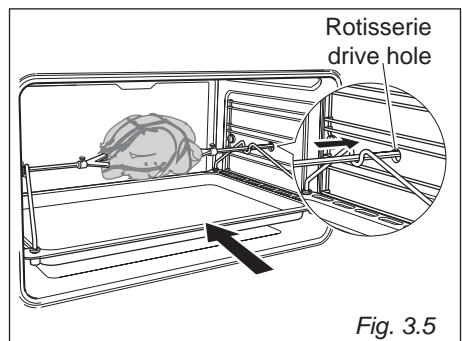

Fig. 3.5
4. Place the rotisserie assembly in the oven (fig. 3.5).